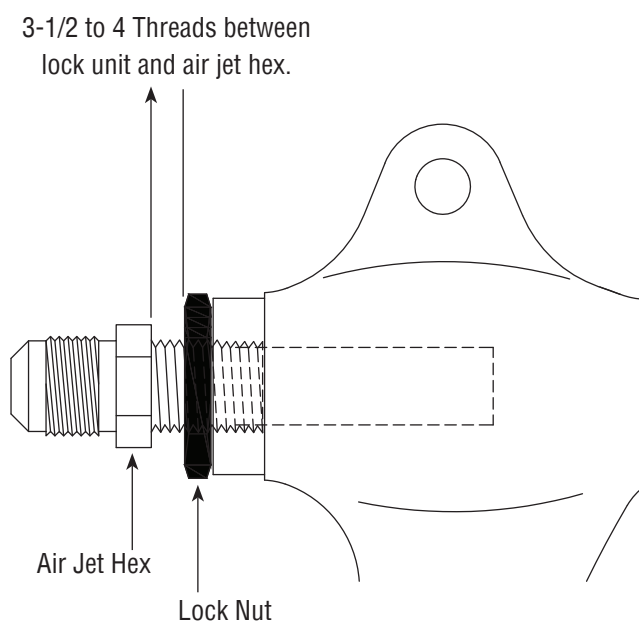

FIGURE 1
5.1 | Air Jet Adjustment – Figure 1